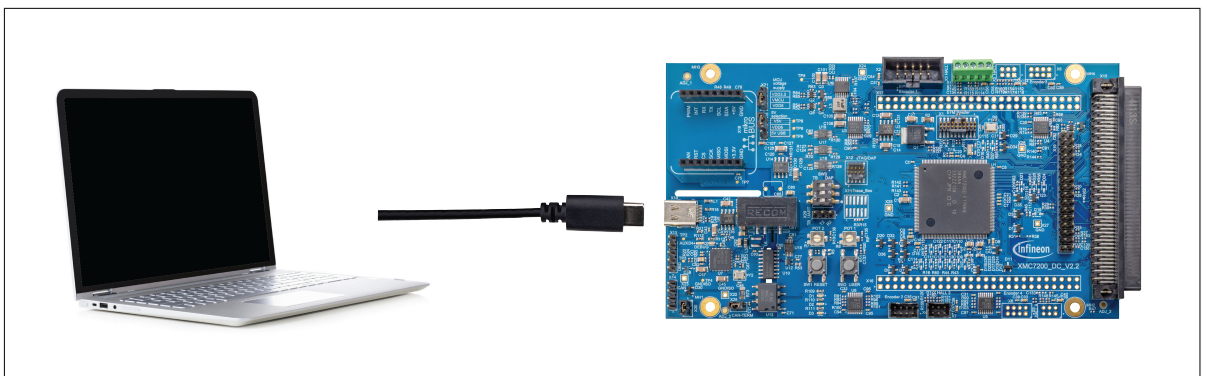

Figure 7 Connect USB cable to the USB connector on the board
1. To program or debug the XMC7200 drive kit, connect it to the PC using a USB Type-C cable. Attach the cable to the J-Link USB connector as shown in Figure 7. Upon first connection, the PC recognizes the device as a USB composite device